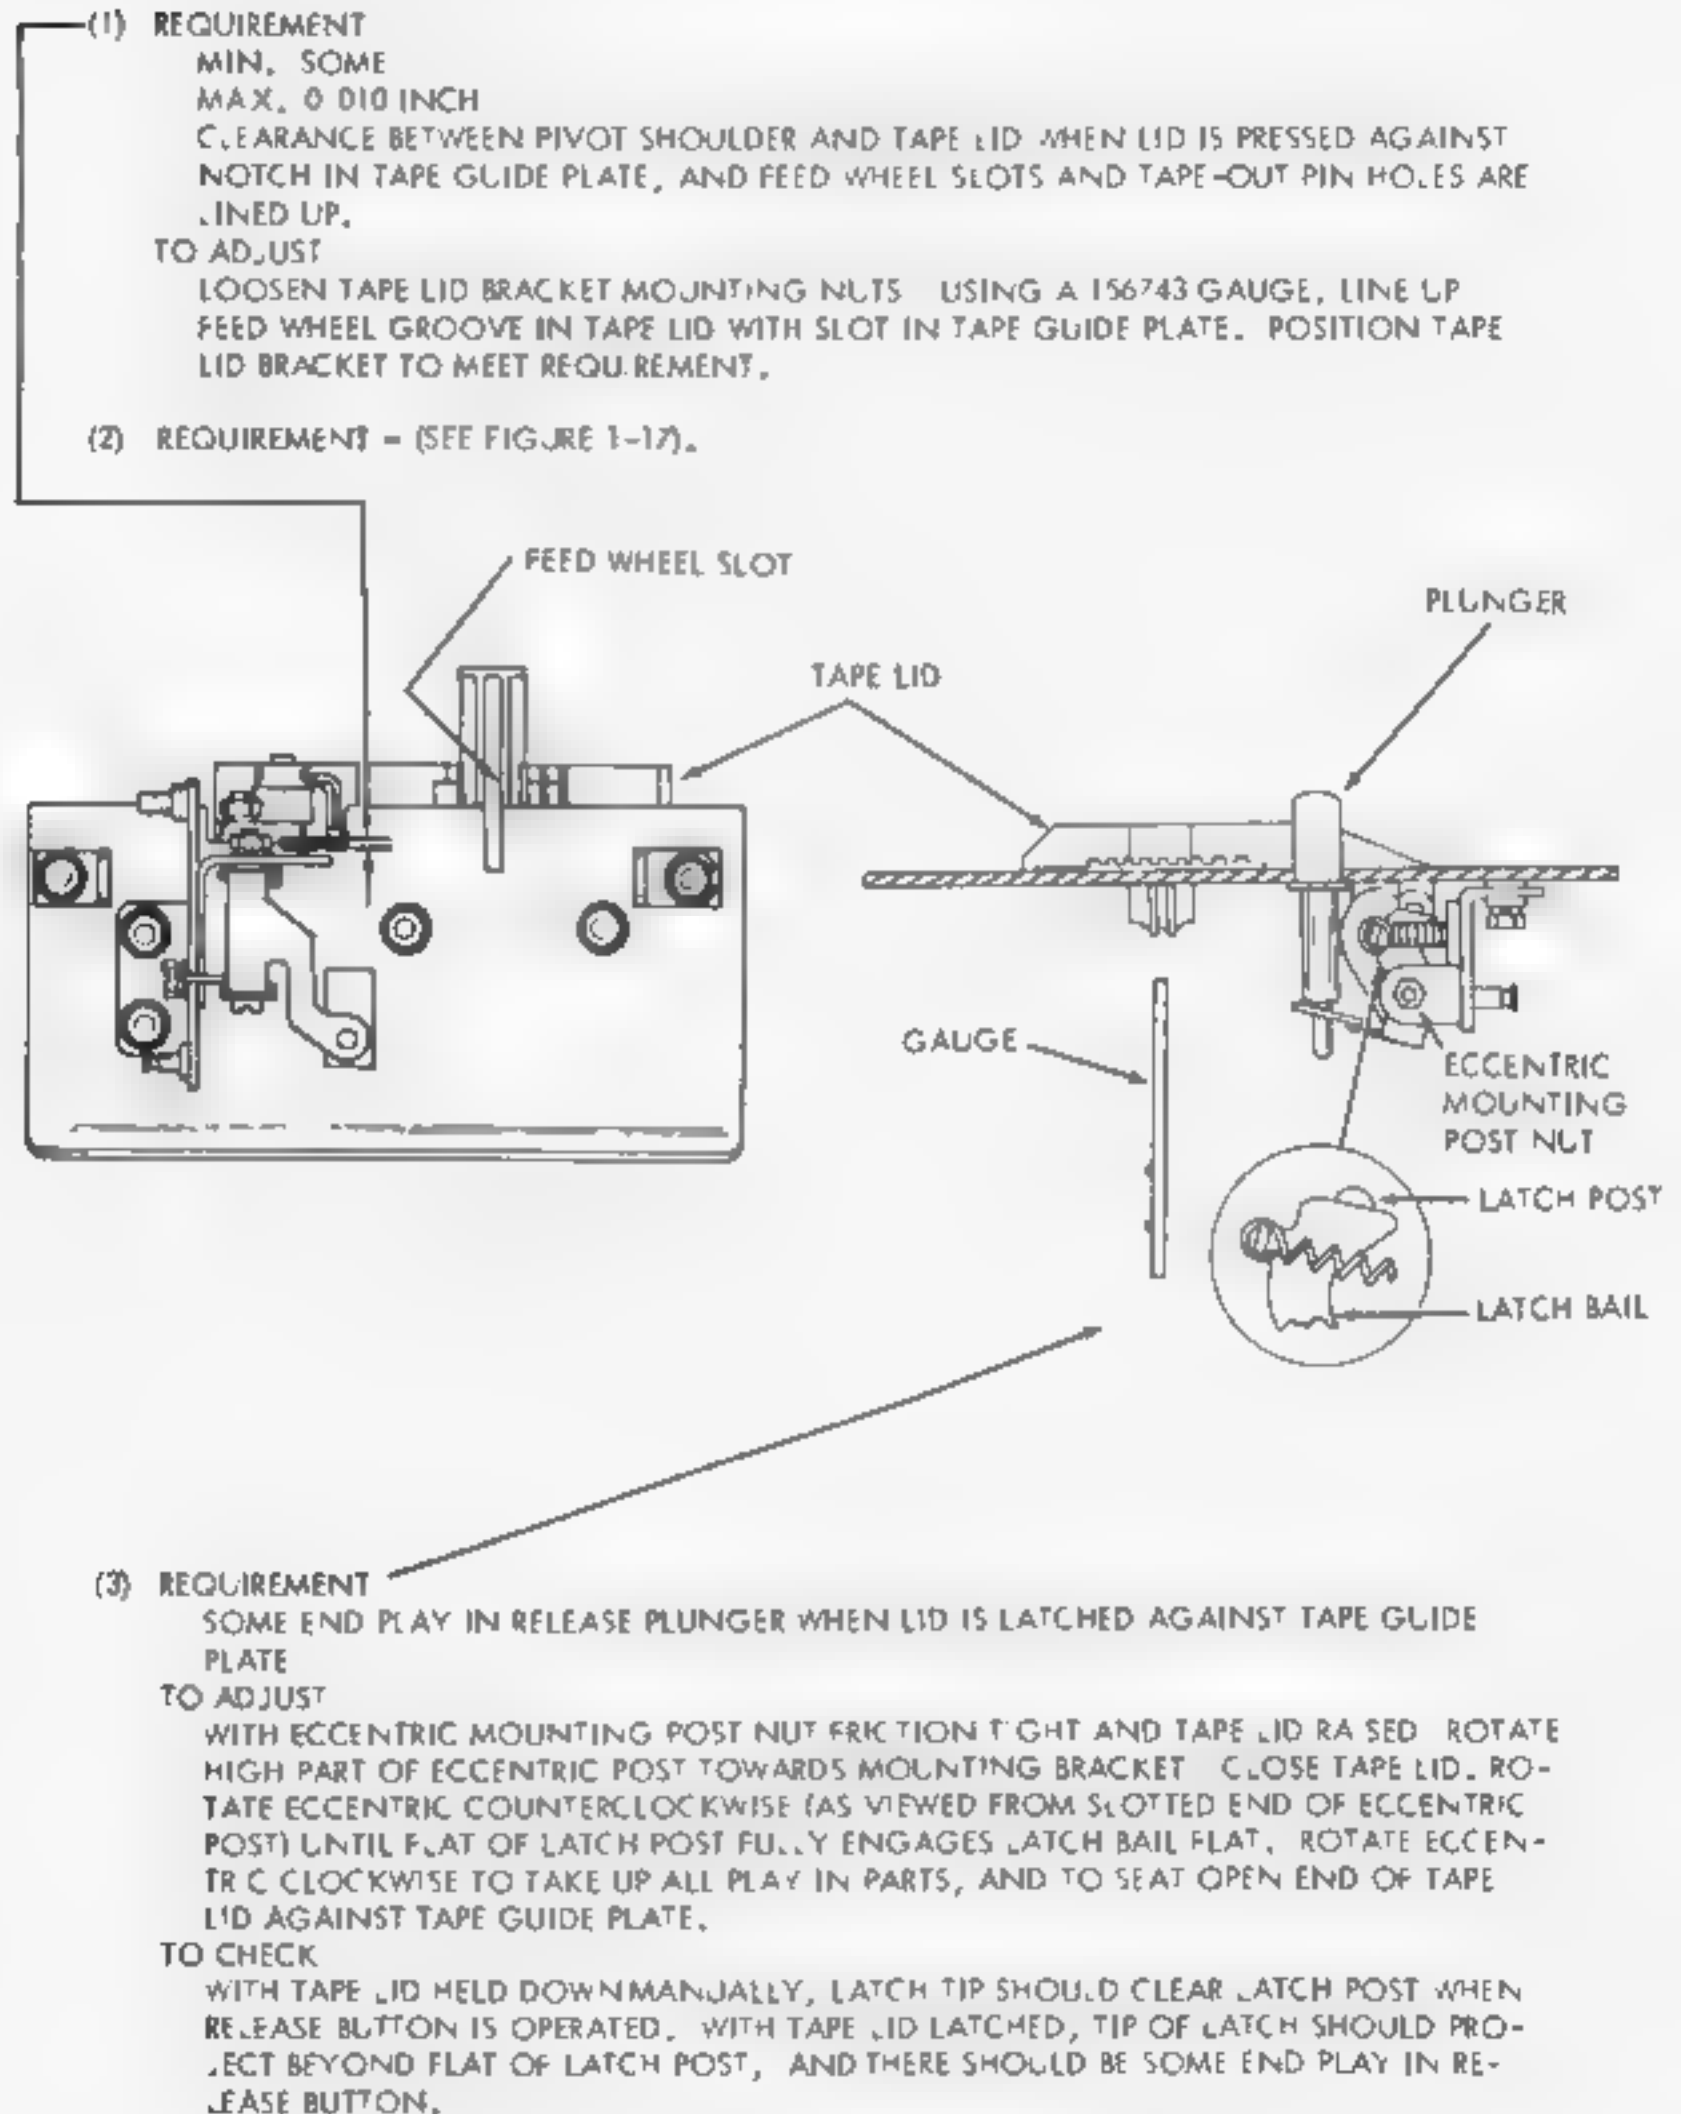

FIGURE 1-16. TAPE LID MECHANISM
(1) AND (3) REQUIREMENTS - (SEE FIGURE 1-16).
LOOSEN TWO SCREWS HOLDING TAPE LID MOUNTING BRACKETS TOGETHER, AND POSITION TAPE LID. RECHECK ADJUSTMENTS (1) AND (2) OF TAPE LID ADJUSTMENT (SEE FIGURE 1-16).